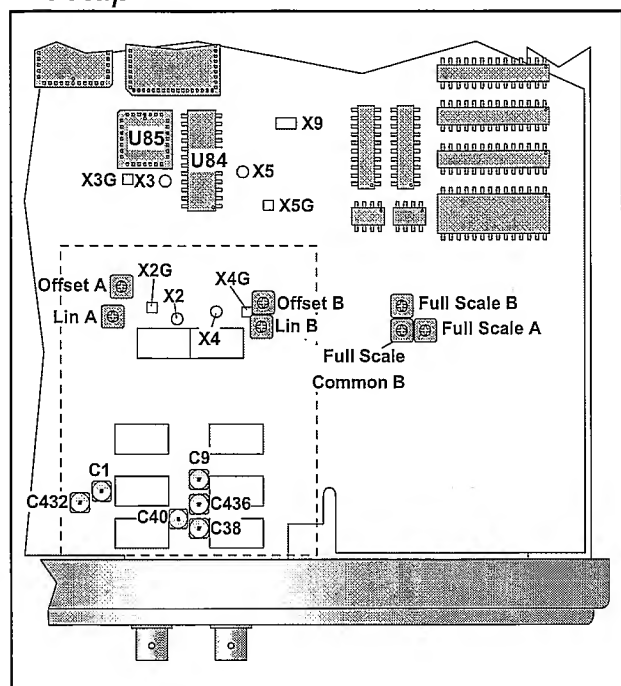

Figure 6-7 Test points and trimmers for the Input amplifiers.
- Adjust C40=1X A until the tilt of the top line is 0.3 V. See Figure 6-7.
- Adjust C1=10X A until the tilt of the top line is 0.3 V. See Figure 6-7.
- Adjust C38=1X B until the tilt of the top line is 0.3 V. See Figure 6-7.
- Adjust C9=10X B until the tilt of the top line is 0.3 V. See Figure 6-7.